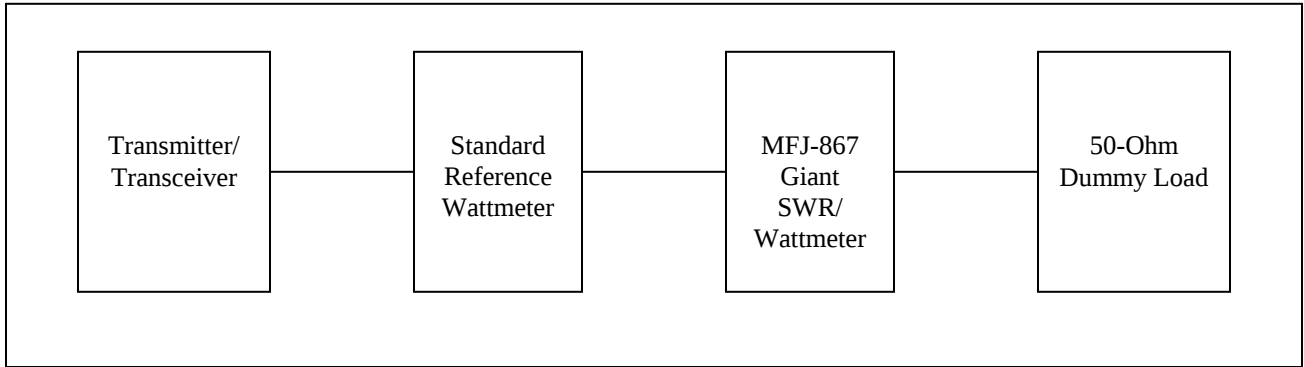
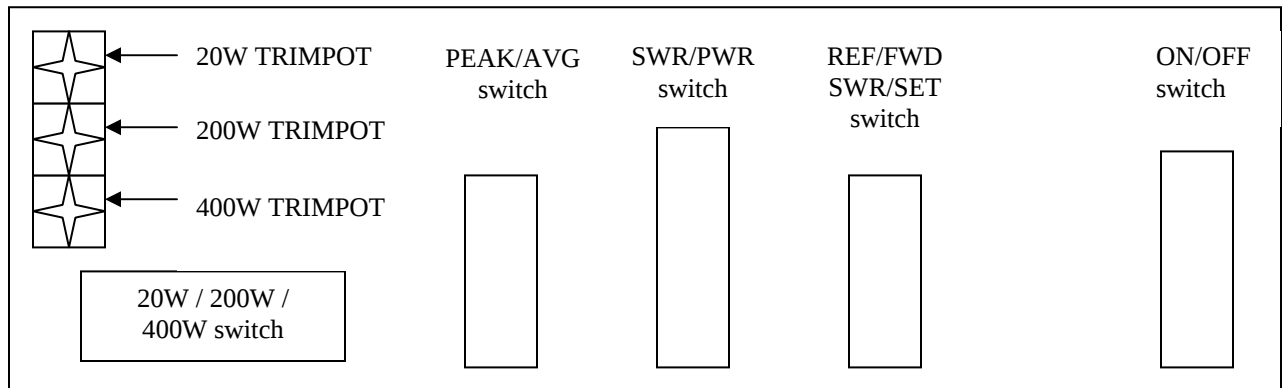

Figure 3: Calibration Setup
Figure 4: Trim pot location (inside view)
1. Refer to Figure 3 for the Calibration Setup and Figure 4 for trim pot location.
2. Connect the Calibration Setup equipment as shown in Figure 3. Use a 50-ohm dummy load for the antenna. Set the Transmitter to the 144, 220, or 440 MHz.
3. With the **20W / 200W / 400W** switch on the 20 Watt scale, transmit up to 20 Watts as indicated on the reference meter. Adjust the 20 trim pot on the inside board to set the forward power scale to match the reference meter. Refer to Figure 4 for trim pot location.
4. With the **20W / 200W / 400W** switch on the 200 Watt scale, transmit up to 200 Watts as indicated on the reference meter. Adjust the 200 trim pot on the inside board to set the forward power scale to match the reference meter. Refer to Figure 4 for trim pot location.
5. With the **20W / 200W / 400W** switch on the 400 Watt scale, transmit up to 400 Watts as indicated on the reference meter. Adjust the 2000 trim pot on the inside board to set the forward power scale to match the reference meter. Refer to Figure 4 for trim pot location.